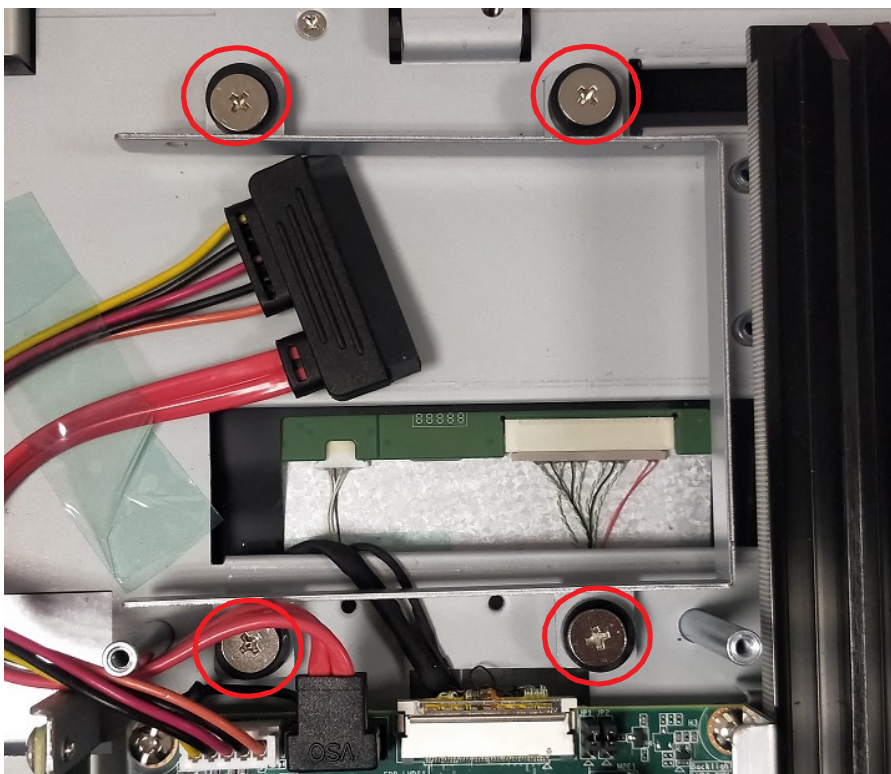

Figure 2.10
3. Remove the four screws (circled in red in Fig. 2.10) to remove the SSD cover.